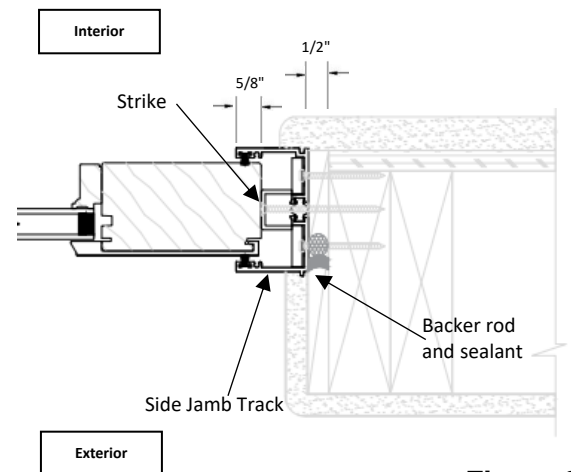

Figure 21
- 6.3 With all panels fully engaged at interlocks, the leading/locking panel should insert 5/8" into side jamb (see Figure 21). Check for alignment between the panel and side jamb to ensure equal reveal.